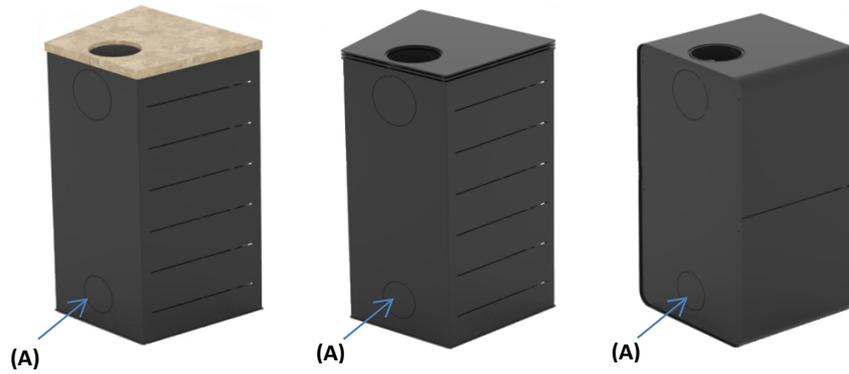

Fig. 18 – Rear view of each model; (A) Section to remove for external air inlet
- 3- On the rear side of the unit, detach the appropriate section to install the external air inlet (see Fig. 18); To do this, use cutting pliers to cut off the mini-joints that secure this section to the casing of the unit;